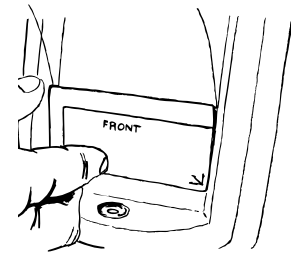

Figure K-2
- Alignment of the screen protector to the bezel (frame) of the DV2T is critical. Be sure to avoid mis-alignment which may result in the screen protector contacting or locating under the bezel (frame). A foam alignment tool is attached to the screen protector's outer layer and should be used to locate the screen protector to the lower right hand corner of the touch screen (see Figure K-2).